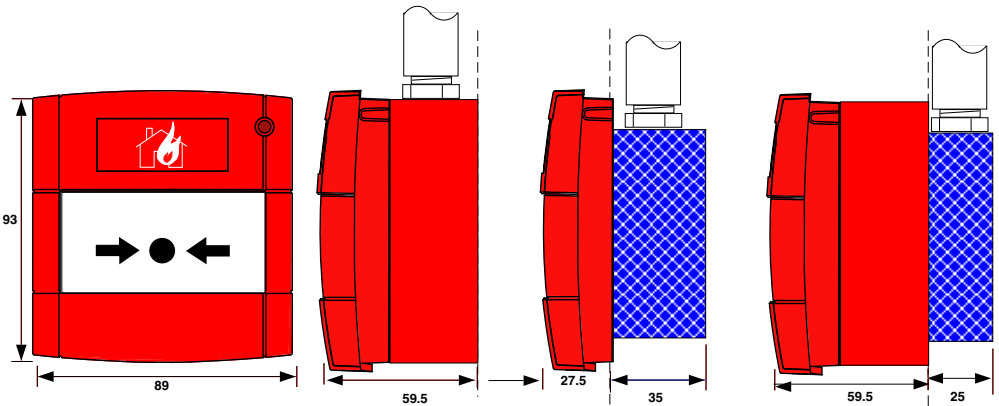

Fig. 4: MCP820M Overall Fixing Dimensions
- The MCP820M is fitted to a standard KAC break glass callpoint backbox, standard single gang metal plaster box (27.5 mm for flush mounting) or standard single gang metal plaster box (25 mm). (See Fig 4 for overall dimensions).
- All conductors to be free of earths. For typical wiring configuration see Fig. 4.